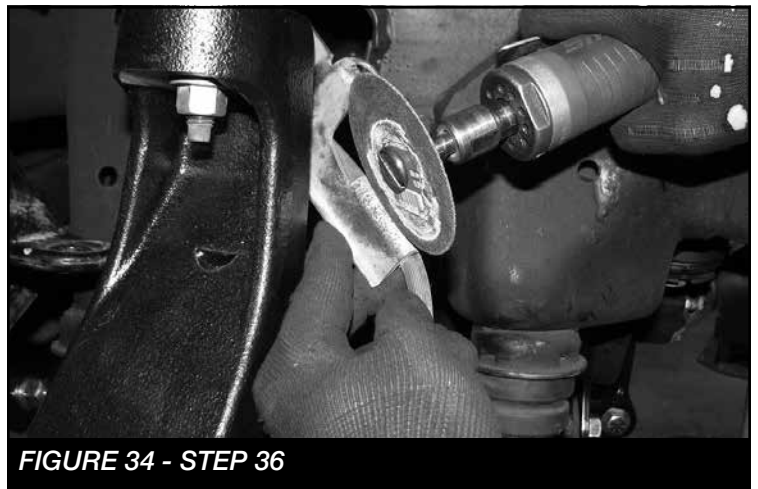
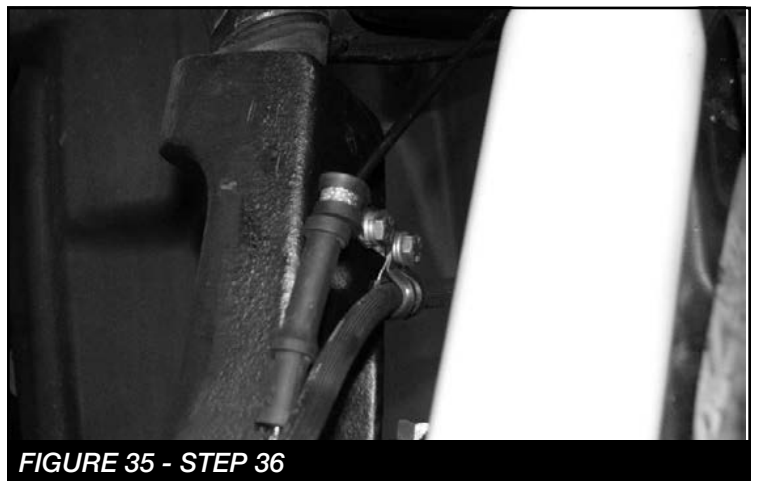

FIGURE 34 - STEP 36
FIGURE 35 - STEP 36
36. Locate the factory brake line bracket on the front brake lines. **CAREFULLY** cut the brackets off and discard. **SEE FIGURE 34.** Using the supplied adel clamps and 1/4" hardware, install the brake lines to the back side of the spindle. **SEE FIGURE 35**